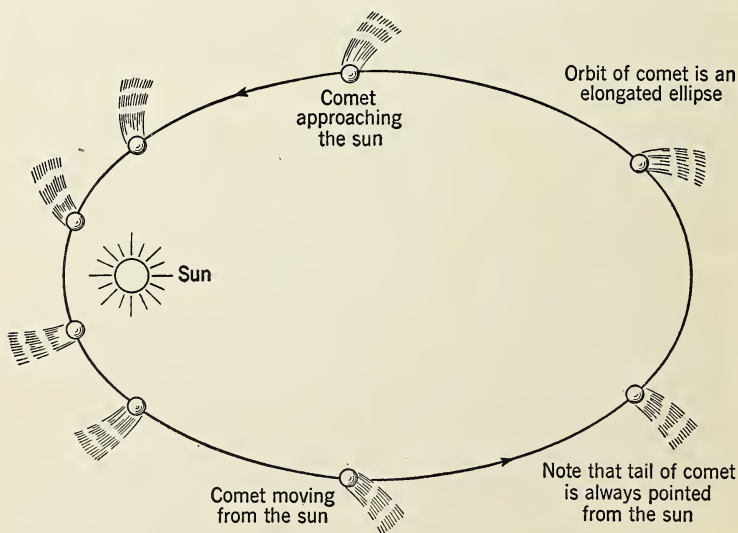

FIG. 1-8. What remains unchanged about the comet's position?
49. What are comets? Some of the comets seem to be members of the solar system family, and others probably are merely visitors. Those which belong to the solar system have orbits which are elongated *ellipses*, with the sun at one of the *foci* of the ellipse. [See Fig. 1-8.] Halley's comet, which comes so close to the earth every 76 years that it is visible to observers, is believed to have a very much elongated orbit. Some of your family may have seen Halley's comet in 1910, when it approached the sun, rounded it, and then started away again on its long journey. By the year 1948, it will have rounded the farthest end of its orbit and be starting back to the sun for its next visit. Some comets have periods which are only a few years in length.